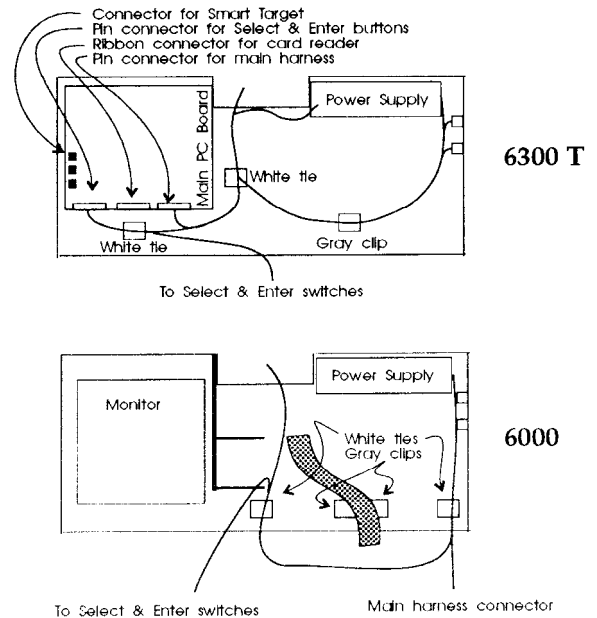

Fig. 2. Top drawing shows approximate placement of cable clips and wire ties for Model 6300T; bottom drawing shows placement for 6000 series.
11. After cleaning the tray with a dry cloth, secure the harness with gray cable clips and white wire ties provided. Figure 2 illustrates the general locations of the clips and ties on the tray.